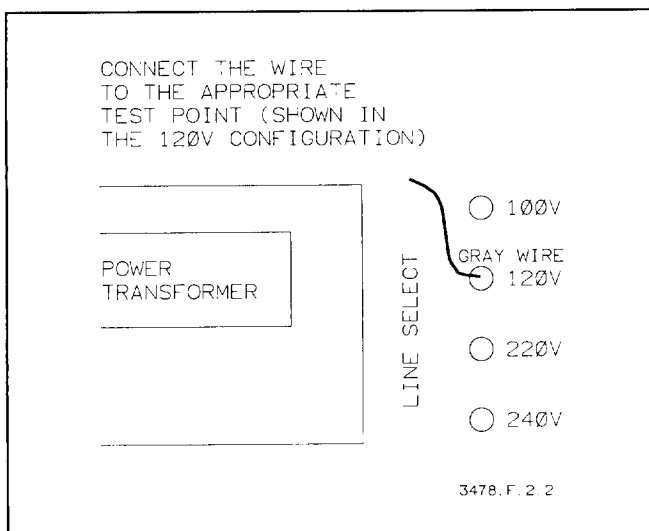

Figure 2-2. Line Select Jumper
c. Refer to Figure 2-2 and connect the gray wire to the line terminal corresponding to the desired input line voltage.